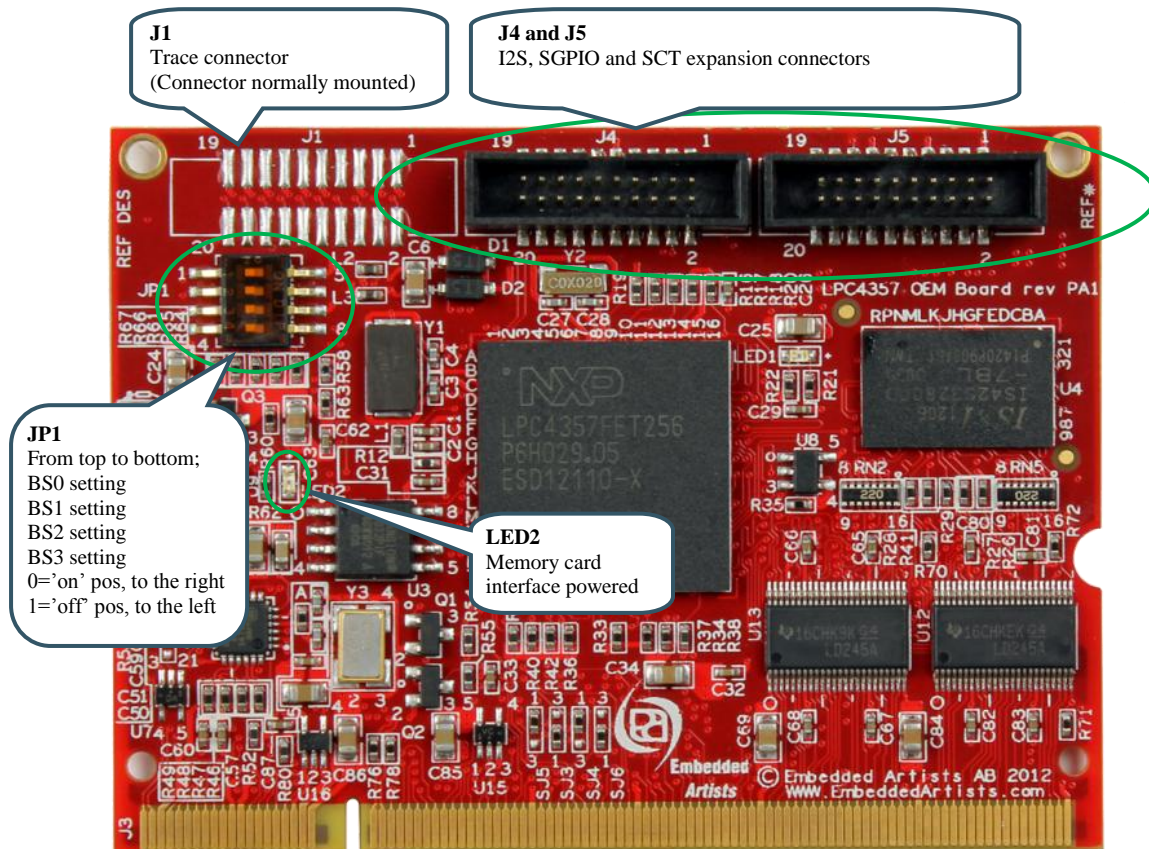
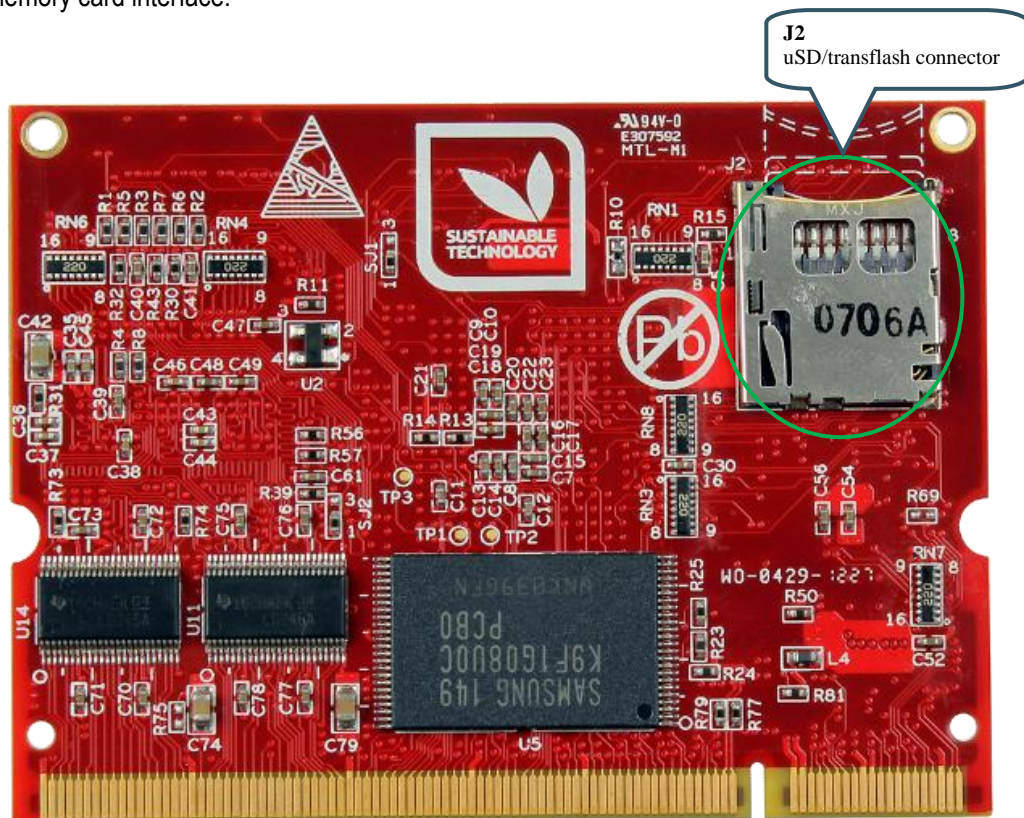

Figure 1 – LPC4357 OEM Board Picture, top side
Figure 2 – LPC4357 OEM Board Picture, bottom side
There is a connector on the top side of the LPC4357 OEM board, carrying all signals needed for debugging with trace. It is a standard 20 pos (50 mil pitch) trace connector as defined by ARM. Figure 1 illustrates where J1 is located on the board.
There are two 20-pos, 50 mil pitch connectors on the top side of the LPC4357 OEM board. See Figure 1 for location. These connectors carry selected I2S, I2C, SGPIO and SCT signals and can be used to connect these signals to special expansion boards. Embedded Artists has an audio and video expansion board that connects to these connectors. Note that some of the signals can be used on the OEM base board. Before using the signals, always check for possible contentions.
There is a uSD/transflash memory card interface connector, J2, on the bottom side of the board. See Figure 2. LED2, on the top side, lights when the interface is powered. See Figure 1 to locate LED2.